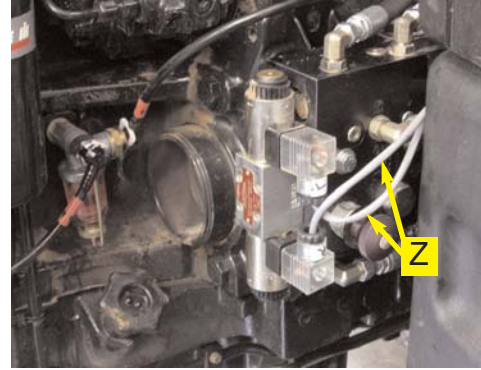

Figure 9a. Valve cable installed at automated steering block.
Route the valve control cable (Z) from the automated steering block, on top of the transmission and through the access hole on the right front corner of the cab. (Figure 9a. to 9c.)